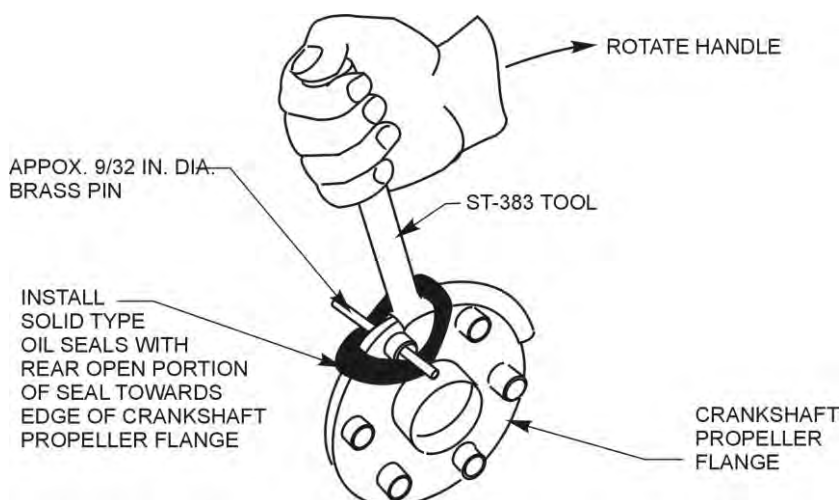

Figure 43
- (3) Install the seal over edge of crankshaft propeller flange with the rear (open portion) of the seal toward the flange. See Figure 43.
- (4) Put a brass pin approximately 9/32 in. (7.14 mm) diameter by 3 in. (76.20 mm) long through the crankshaft propeller flange bushing to hold both sides of the seal.
- (5) Install tool ST-383 under the seal and over the edge of the crankshaft propeller flange as shown in Figure 43. Use even pressure with your hand, carefully turn the tool to force the seal over the crankshaft propeller flange and use care not to damage the seal.
- (6) Put the seal spring around the crankshaft, join the two ends together, and hook the spring. The spring must be a continuous circle around the crankshaft with no kinks or twists.
- (7) Work the spring into position in the groove (open portion) in the rear side of the seal.
- (8) Refer to the latest revision of Service Instruction No. SI-1324 for any new details.